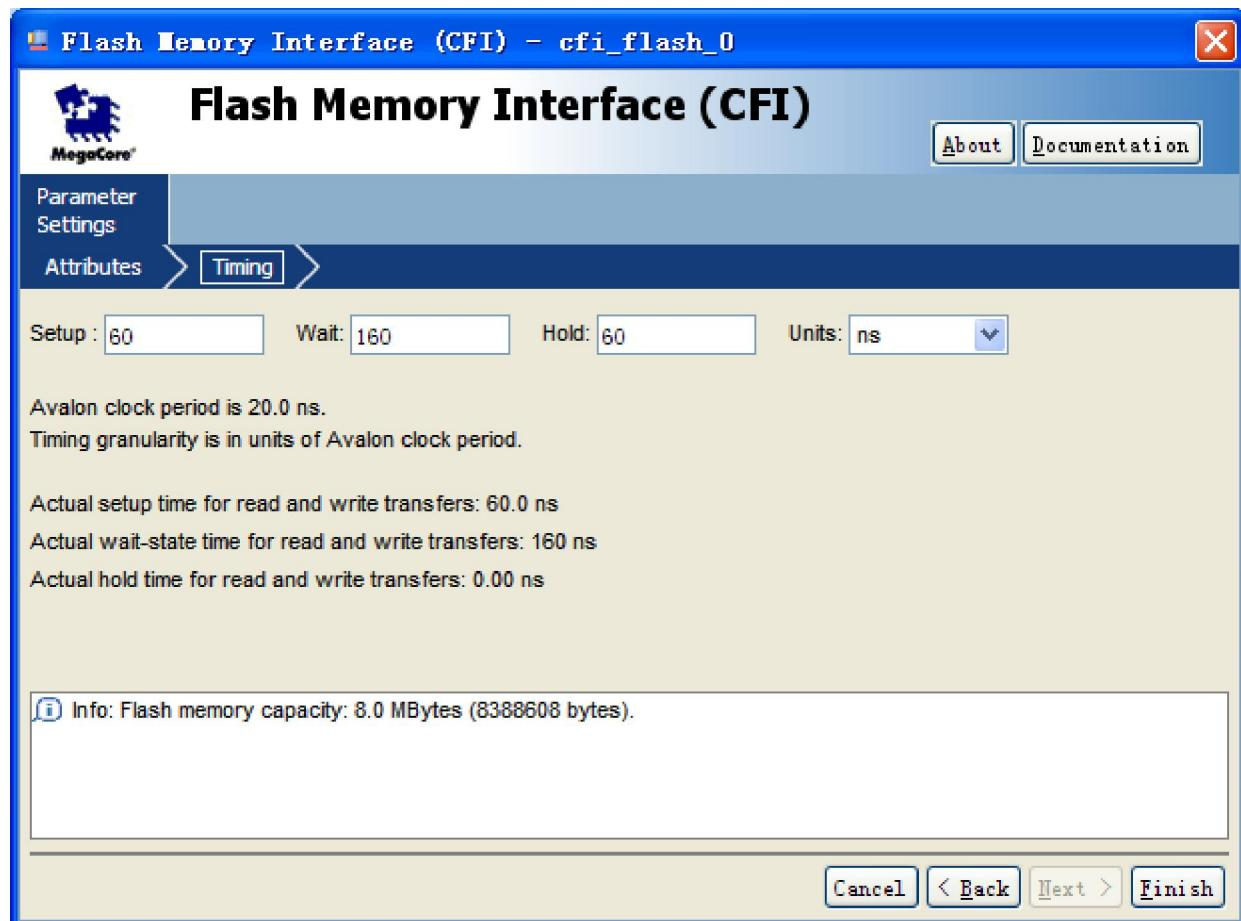

Figure 3-8 Timing Settings of CFI
6. Choose **Timing** tab, modify settings as shown in Figure 3-8.